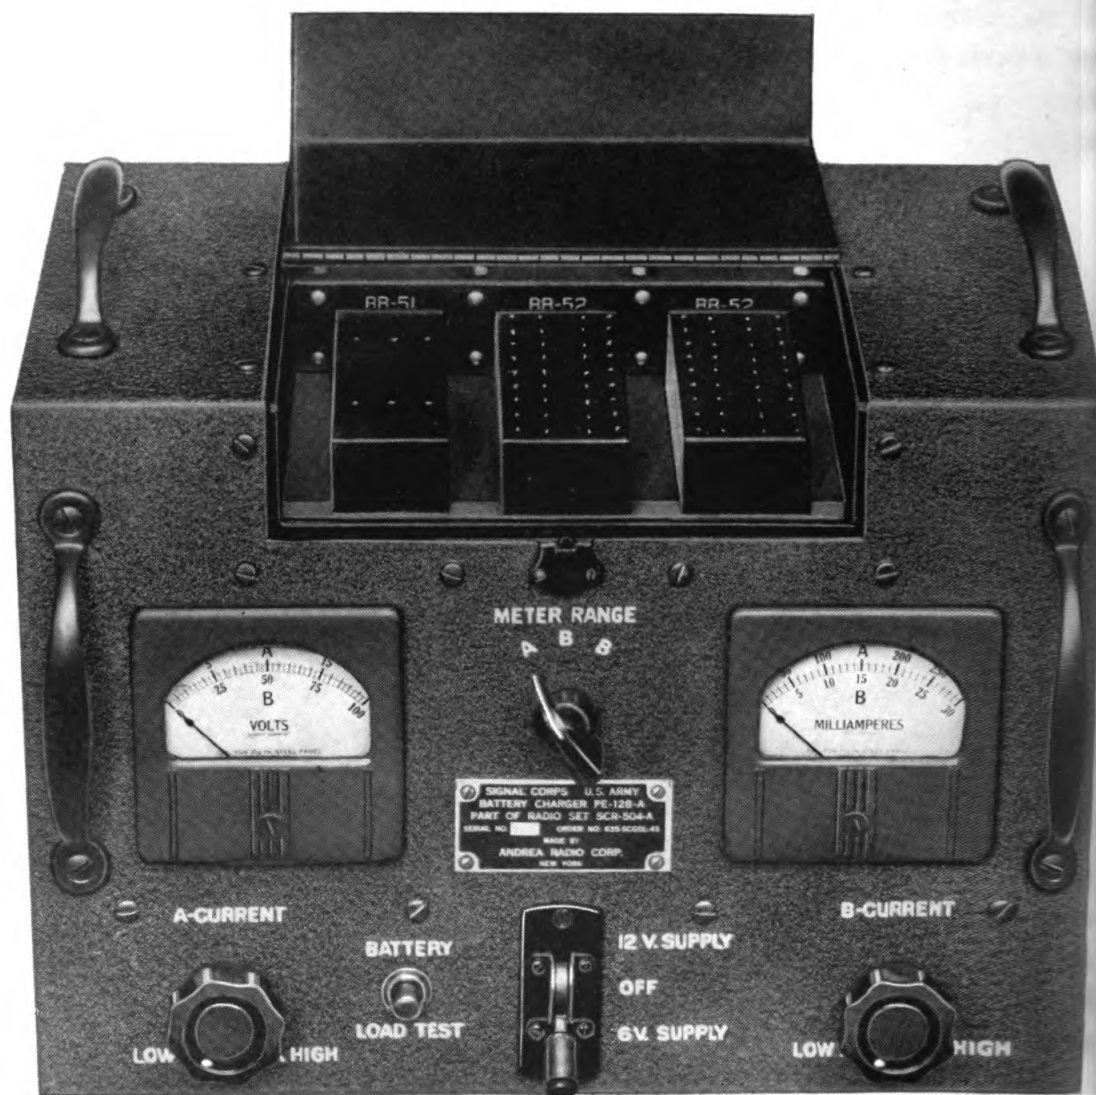
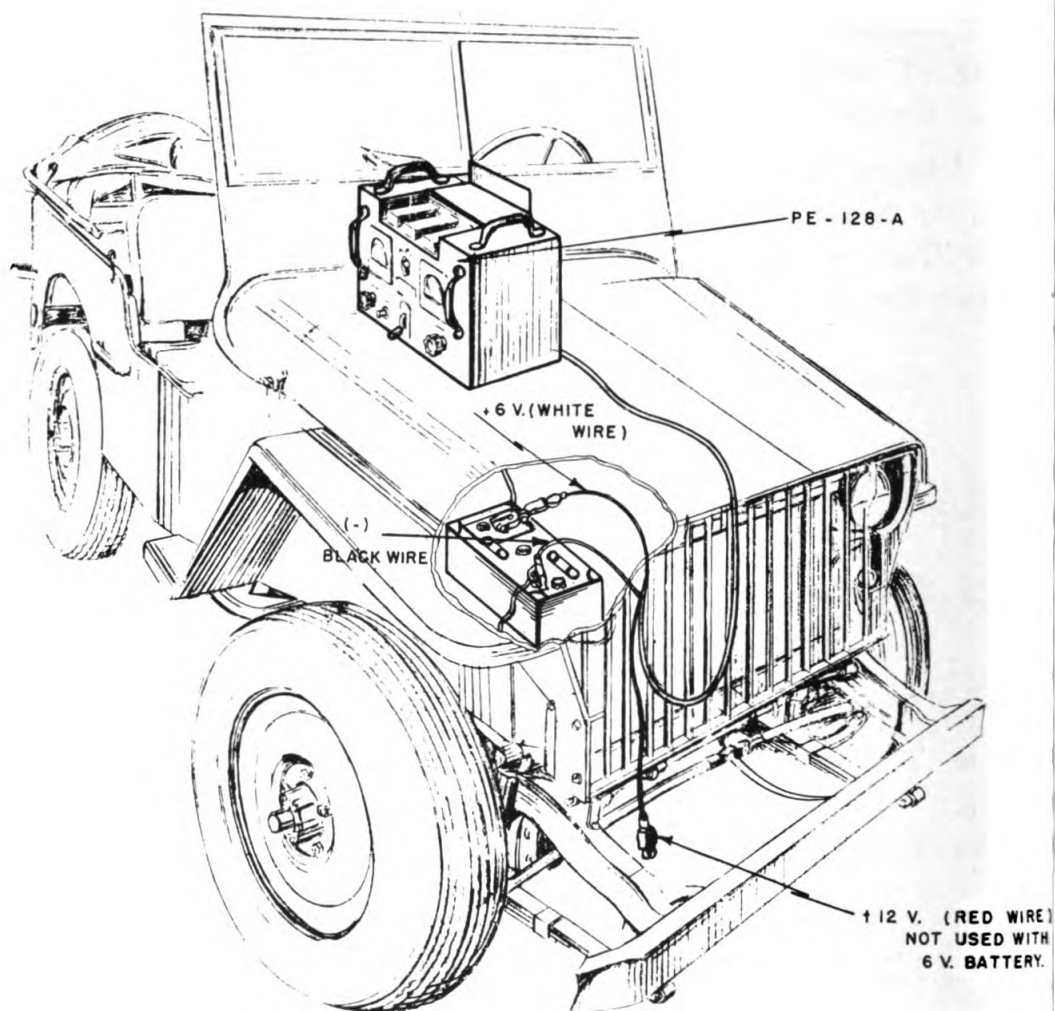

Figure 9. Battery Charger PE-128-A, Front View,
Figure 17. Battery Charger PE-128-A Connected to "Jeep" Battery
**17. Operation of Battery Charger PE-128-A (figure 9).—** To operate Battery Charger PE-128-A a vehicular storage battery of either 6 or 12 volts is needed for a supply. If no separate battery is available, connection may be made to one installed in a vehicle (see figure 17). If this is necessary, remember that the terminal voltage of the vehicular battery rises considerably when the motor is running and, consequently, you must readjust the A-CURRENT and B-CURRENT controls to restore the currents to the proper values.
(4) Connect clip marked (—) to negative or minus side of vehicular battery. **CAUTION: If you get these battery connections reversed you probably will blow the primary circuit fuse in the PE-128-A.**
(5) Connect clip on white wire marked + 6 to + 6 volts on the vehicular battery. The red wire is not used unless you connect to a 12-volt battery (figure 17).
(6) If a 12-volt battery is used instead of a 6-volt, connect the red wire marked + 12 to + 12 volts on the vehicular battery. The white wire is then not used.
(7) Plug the BB-51 and the two BB-52 batteries into the proper receptacles of the battery compartment. Leave the lid open.
(8) Throw SUPPLY switch to the position corresponding to the supply voltage you are using. **This is important.**